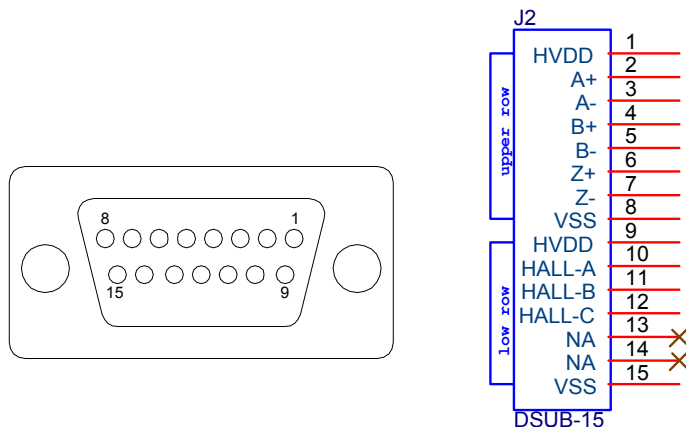

Figure 22. Encoder Interface Connector, J2
- Assemble 15-pin male D-Sub connector, referring to Figure22 .